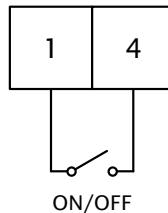

Figure 6.9: Two-wire Control
- 2. Wire one of the 2-wire SPST switches between terminals 1 and 4, as shown in Figure 6.9.